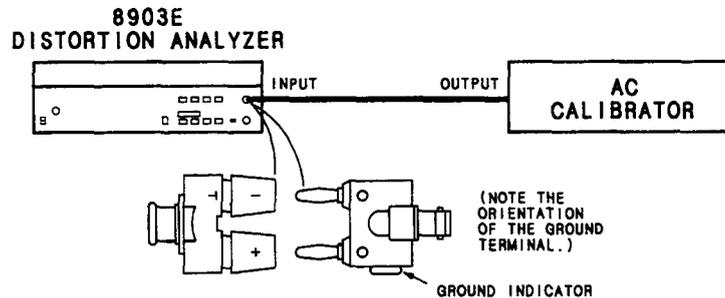

Figure 5-3. Low-Input Flatness Adjustment Test Setup
19. Connect the equipment as shown in Figure 5-3. Note how the cable connects to the Distortion Analyzer's input through the two adapters. The adapters reverse the outer and inner conductor connections to the cable.